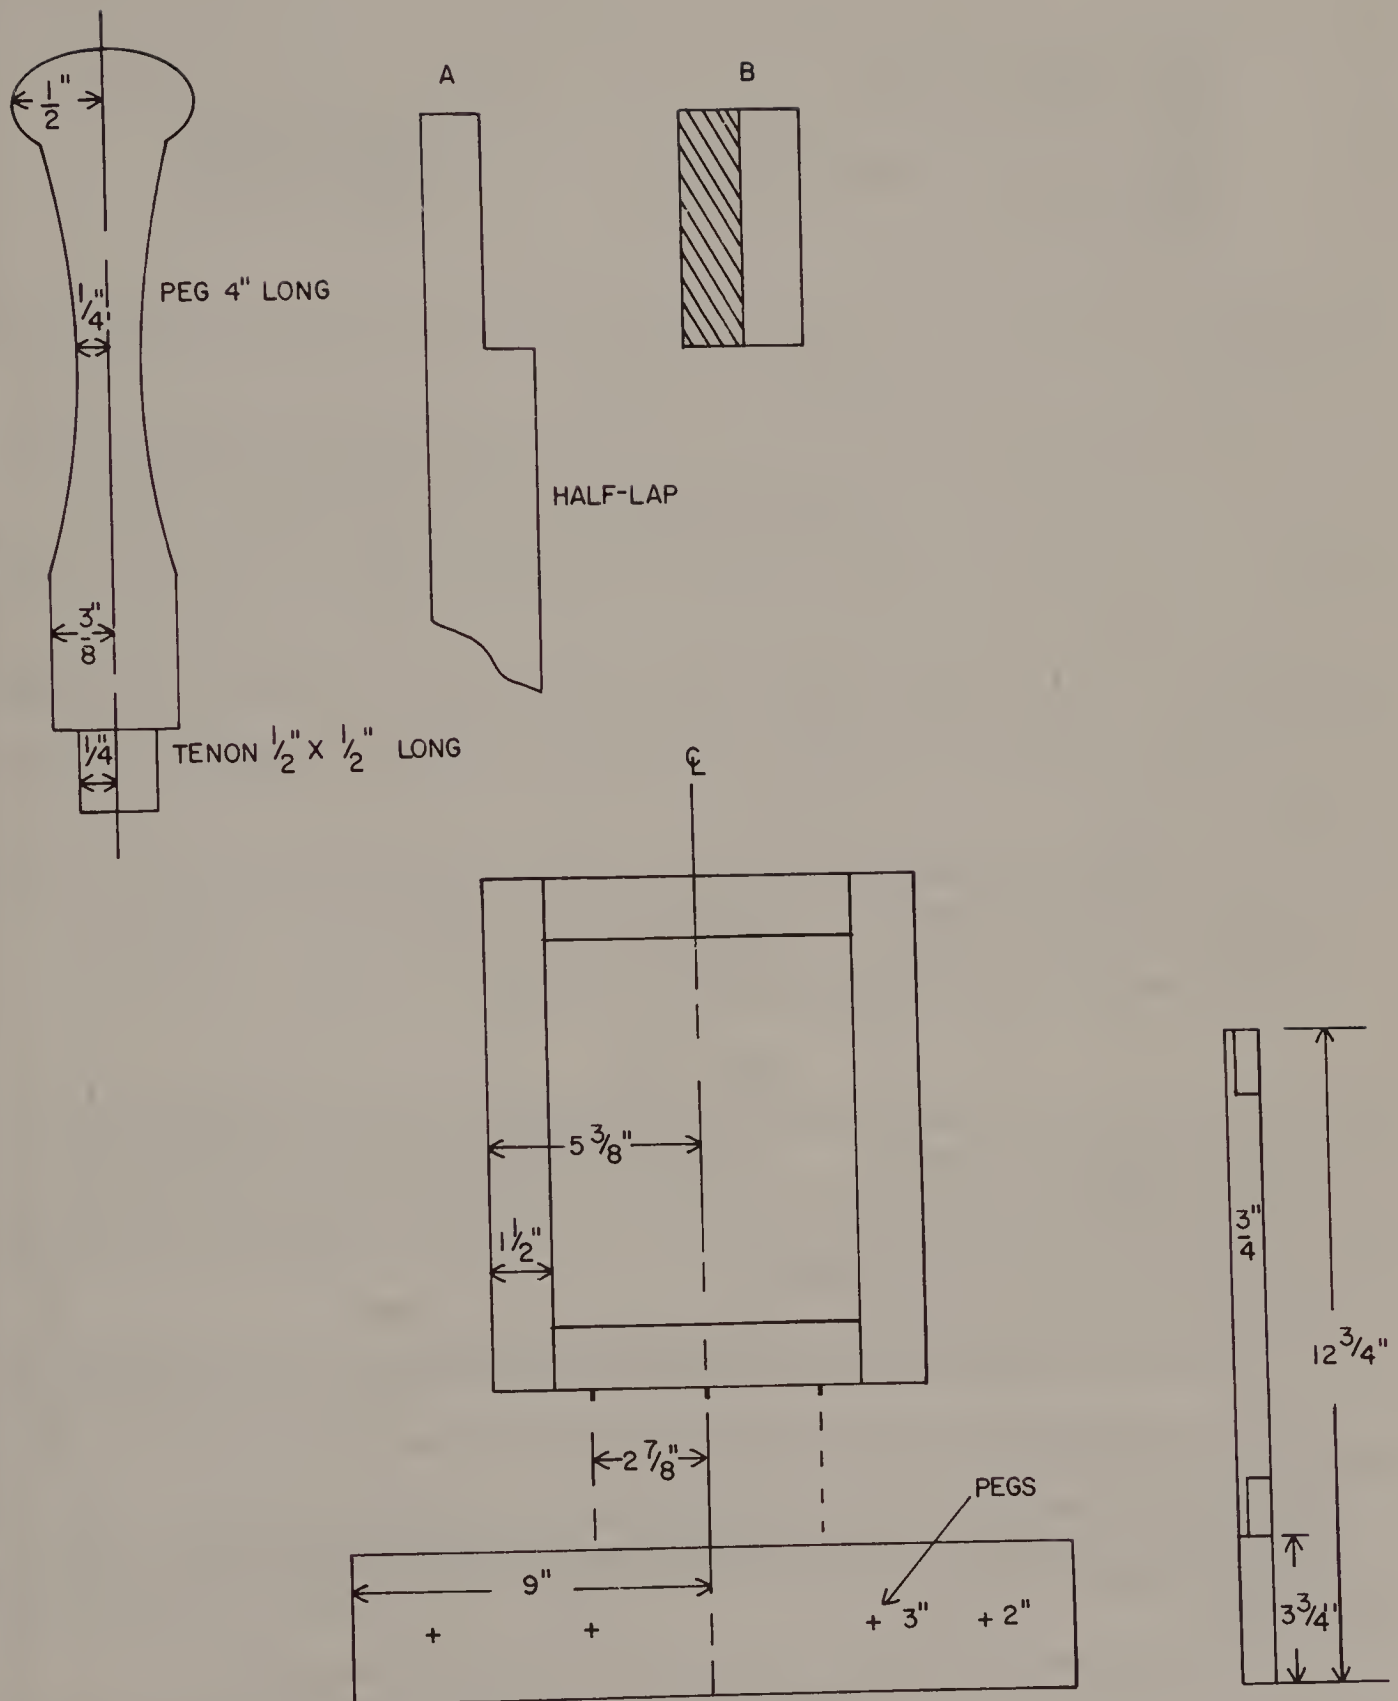

Fig. 8-4. A coat rack and mirror is nice to have around the house.
The coat rack and mirror (Fig. 8-4) is a good project to have around the house. It can be placed about anywhere in the house and is sure to get much use. This project offers itself to many finishes and should fit in with about any decor. A plan drawing is given for the pegs. If you do not have a lathe, the pegs can be
- ☐ Next, drill the holes that will take the pegs. If you use the peg shown in Fig. 8-4, you will drill a ½-inch hole ½-inch plus deep. The plus keeps the glue from squeezing out. Use the spacing shown on the drawing for the pegs.